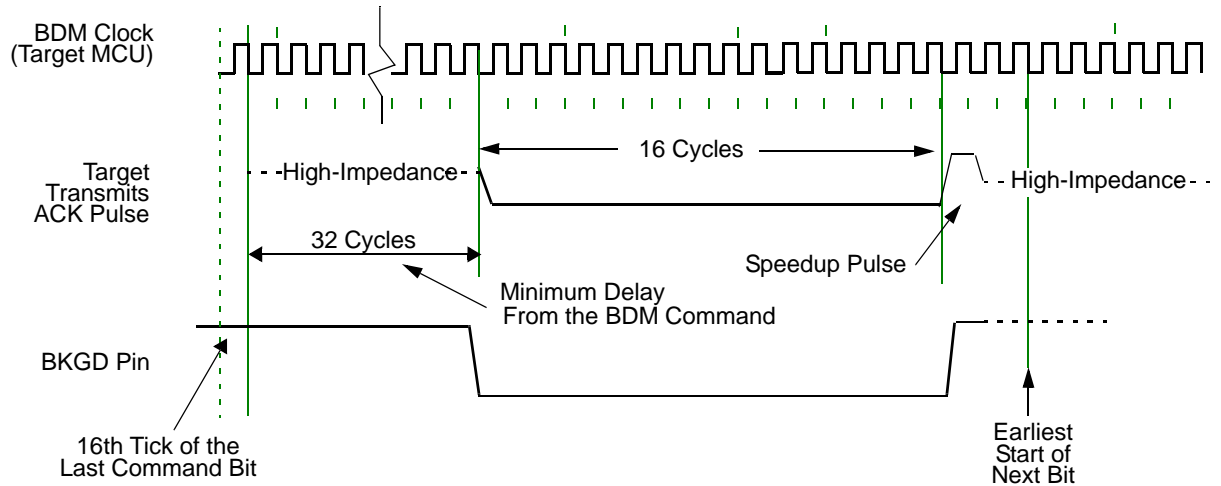

Figure 86. Target Acknowledge Pulse (ACK)
The hardware handshake protocol signals to the host controller when an issued command was successfully executed by the target. This protocol is implemented by a 16 serial clock cycle low pulse followed by a brief speedup pulse in the BKGD pin. This pulse is generated by the target MCU when a command, issued by the host, has been successfully executed (see Figure 86). This pulse is referred to as the ACK pulse. After the ACK pulse has finished: the host can start the bit retrieval if the last issued command was a read command, or start a new command if the last command was a write command or a control command (BACKGROUND, GO, GO\_UNTIL(262) or TRACE1). The ACK pulse is not issued earlier than 32 serial clock cycles after the BDM command was issued. The end of the BDM command is assumed to be the 16th tick of the last bit. This minimum delay assures enough time for the host to perceive the ACK pulse. Note also that, there is no upper limit for the delay between the command and the related ACK pulse, since the command execution depends upon the CPU bus, which in some cases could be very slow due to long accesses taking place. This protocol allows a great flexibility for the POD designers, since it does not rely on any accurate time measurement or short response time to any event in the serial communication.
Differently from the normal bit transfer (where the host initiates the transmission), the serial interface ACK handshake pulse is initiated by the target MCU by issuing a negative edge on the BKGD pin. The hardware handshake protocol in Figure 86 specifies the timing when the BKGD pin is being driven, so the host should follow this timing constraint to avoid the risk of an electrical conflict on the BKGD pin.